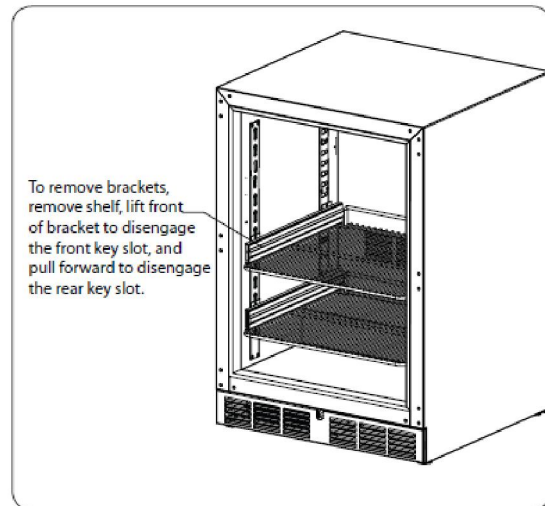

Figure 5. Sliding Shelf Mounting Brackets
2. Reposition each bracket separately. Grasp the middle of the bracket, pull the front end up and out, then forward to remove (Figure 5)